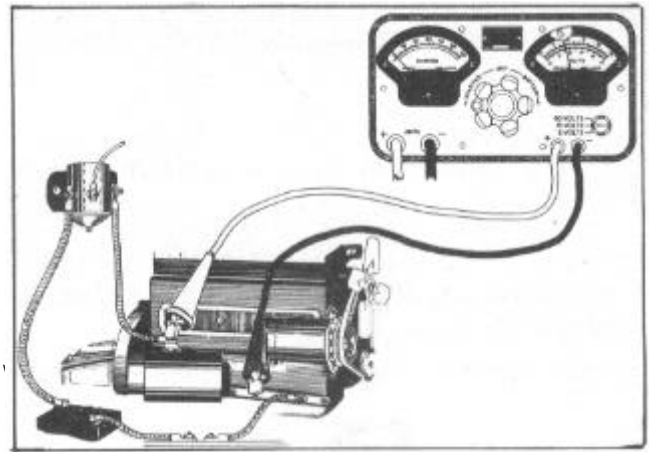

FIGURE 9
1. Connect the negative voltmeter lead of the starter motor tester to the starter switch terminal, Figure 9.